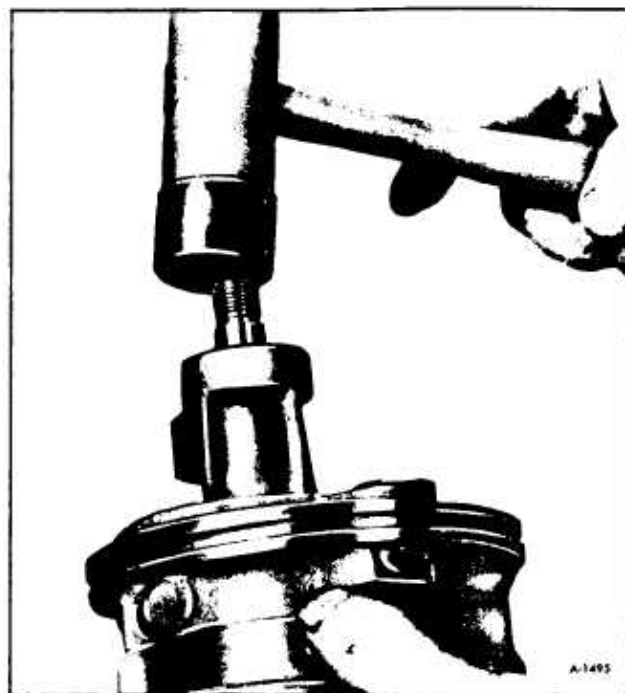

Figure 13-Tapping Shaft to Unseat Pressure Plate
9. With end cover "O" ring and shaft key removed, tap very lightly on end of shaft, only until pressure plate falls free. (figure 13).